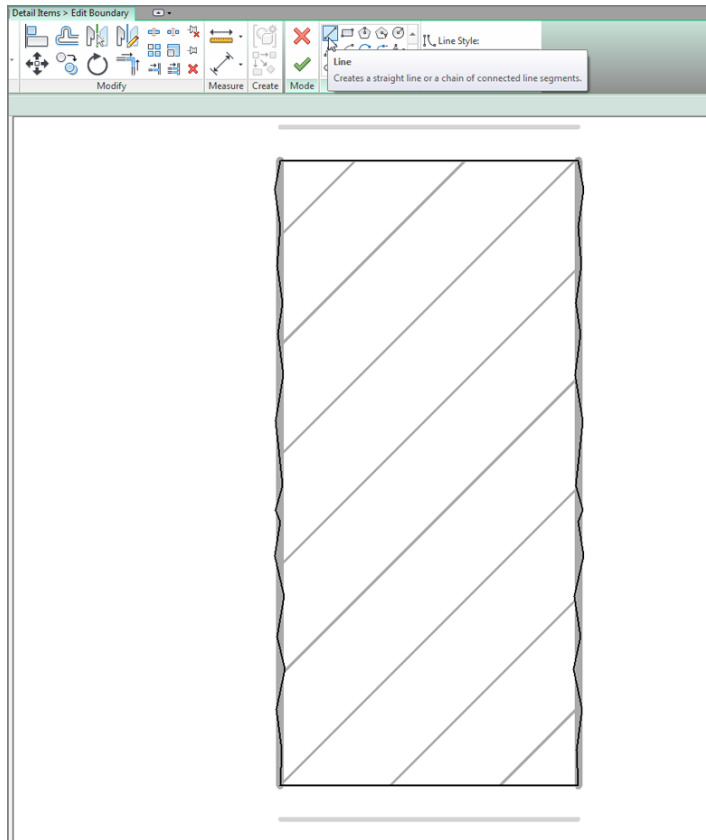

FIGURE 12.17: Adding a texture to the brick family
12. On the Draw panel, select the Line button, as shown in Figure 12.17.
14. Draw a series of jagged lines on the right and left of the brick, as shown in Figure 12.17.